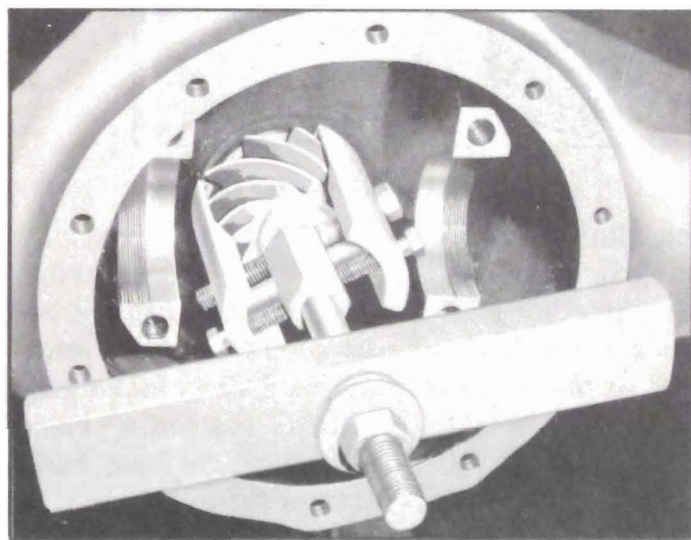

Figure 5-6—Removing Pinion and Propeller Shaft with Puller
4. Pull pinion and propeller shaft assembly rearward out of third member housing, using Pinion Shaft Puller. See figure 5-6.